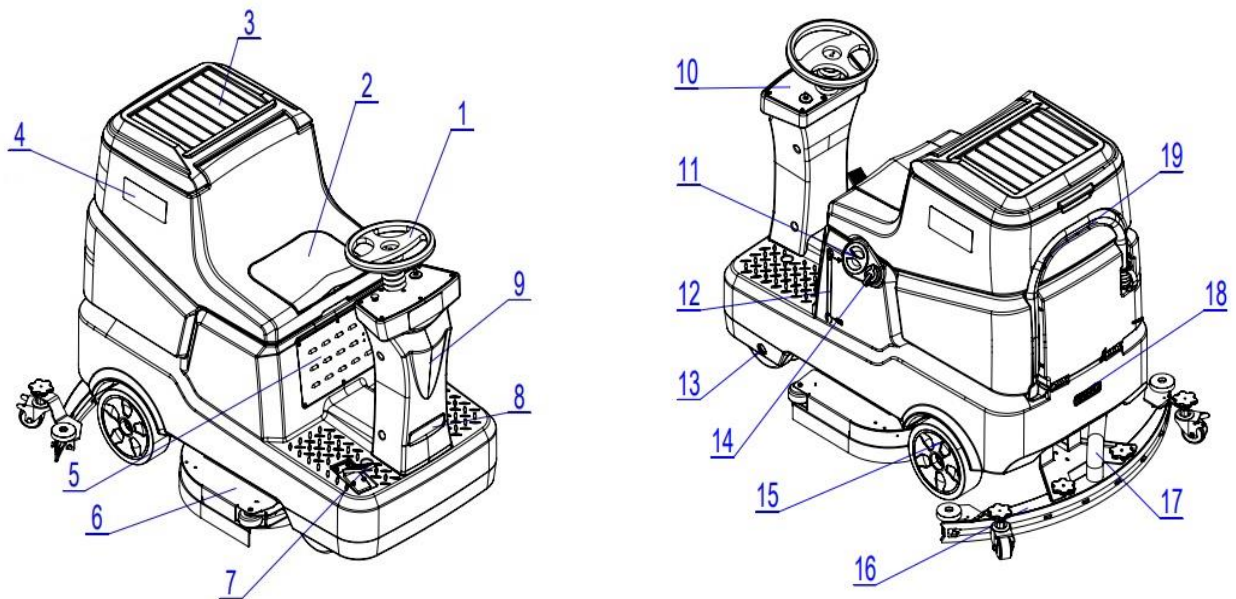

Figure 1
1. Open the recovery tank lid(3, Fig.1) to check if the recovery tank (4, Fig.1) is empty, if not, drain it through the drain hose (19, Fig.1).
4. Tighten the knobs on the squeegee assembly and connect the vacuum hose (17, Fig. 1) to the squeegee assembly.